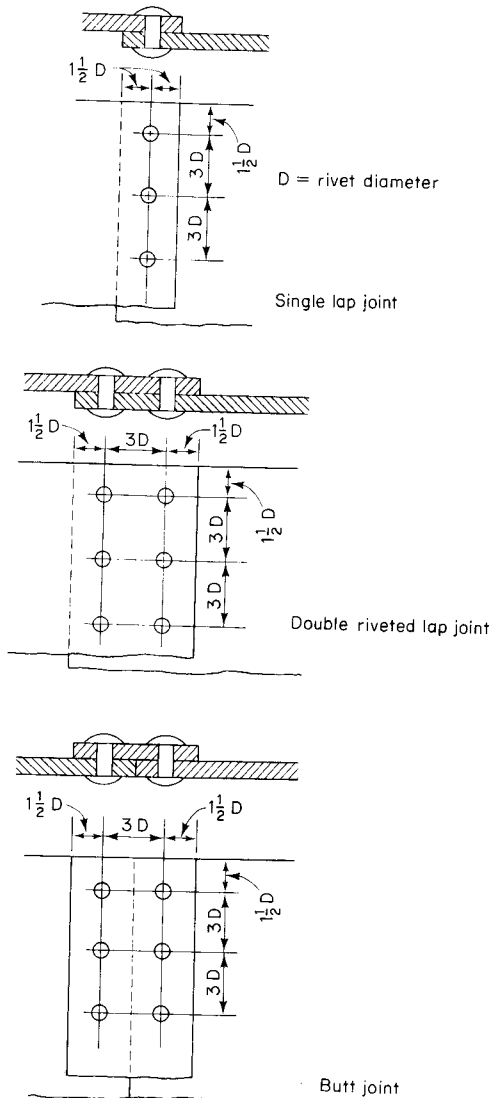

Fig. 4.97 Types of riveted joints
**Riveted joints.** Fig. 4.97 shows some typical riveted joints and the proportions that should be used if the joint is to have maximum strength.
**Rivet size.** The rivet diameter required for the joints shown in Fig. 4.97 is  $1.2 \times \sqrt{t}$ , where  $t$  is the thickness of the plates. For thin plates this formula is often amended to  $1.4 \times \sqrt{t}$ .